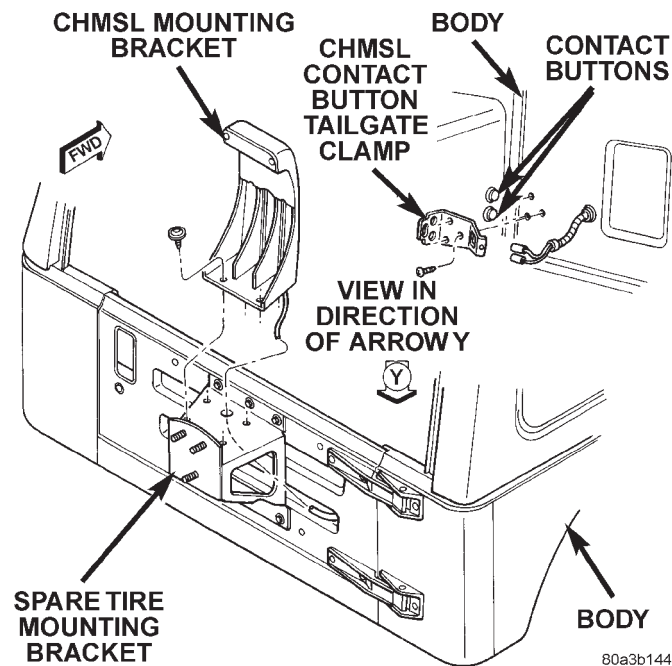

Fig. 7 CHMSL Contact Buttons
- (1) Remove the screws attaching CHMSL lamp housing to the CHMSL bracket.
- (2) Disengage the CHMSL wire harness from the retaining clips.
- (3) Remove the cover from the CHMSL contact buttons.
- (4) Carefully pull the wire harness terminal ends from the contact buttons (Fig. 7).
- (5) Route wire harness through tailgate and separate CHMSL from vehicle.